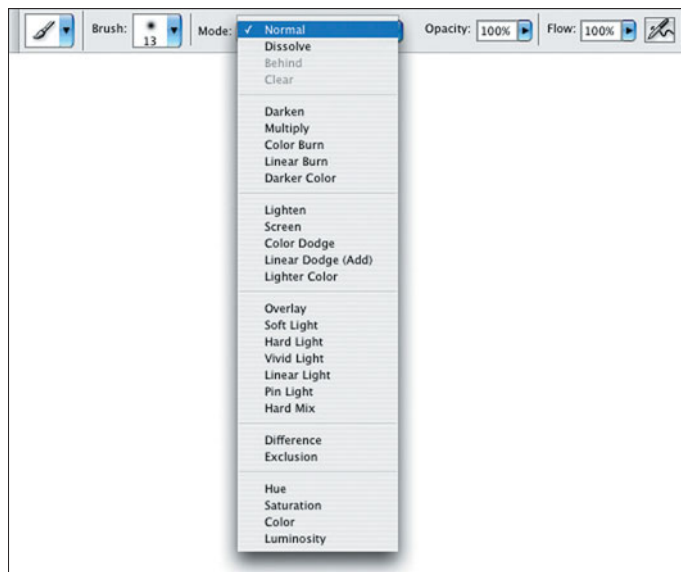
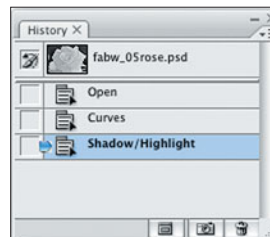

Figure 5.12 The Brush tool has a staggering number of options. Brush diameter, feathering, stroke opacity, and blending mode can all be set independently.
Figure 5.13 In the History palette, you define a source by clicking in the leftmost box of either the snapshot or history state from which you want to paint.
The Brush tool (B) is absolutely essential to working with masks and combining image layers. You paint simply by clicking and dragging the mouse. See Figure 5.12 for Brush tool options.
The last four blending modes in the drop-down menu shown in Figure 5.12 are not active in Grayscale or Multichannel mode. The brush's source color is always the Foreground Color currently set in the Tools palette.
of localized editing, which I'll describe later in this chapter. The History Brush options bar is identical to that of the regular Brush tool, seen in Figure 5.12. Before you can use the History Brush, however, you must first select a source state, as demonstrated in Figure 5.13.
In Figure 5.13, the initial snapshot, generated when the image was opened, is set as the source. Painting with the History Brush will replace pixels altered by the Curves and Shadow/Highlight adjustments with those from the image at its initial state.